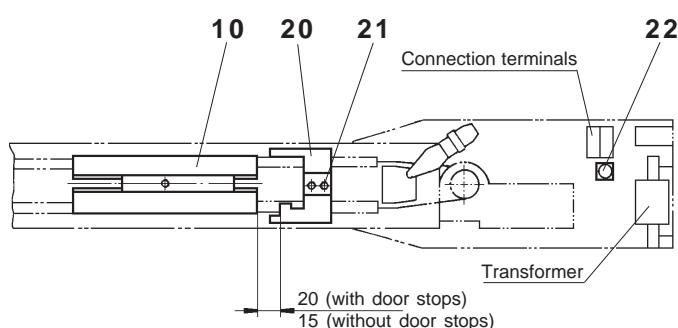

Fig. 9
- Adjust the stop piece for the open position (20) in the drive unit.
Slightly loosen the screws (21) and push the stop piece until it meets the sliding carriage (10). Then retract the stop piece by approx. 5 mm (measure 20) and tighten the screws (21). Fig. 9
- If there are no fixed door stops, the stop piece (20) is fastened without any play between the sliding carriage (10) (measure 15). Fig. 9
- If the setting-up procedure has not been correctly carried out or in the event of a malfunction, this procedure can be repeated by pressing the RESET key (22) (blue button) during at least 2 sec. while the mains supply is switched on. Fig. 9